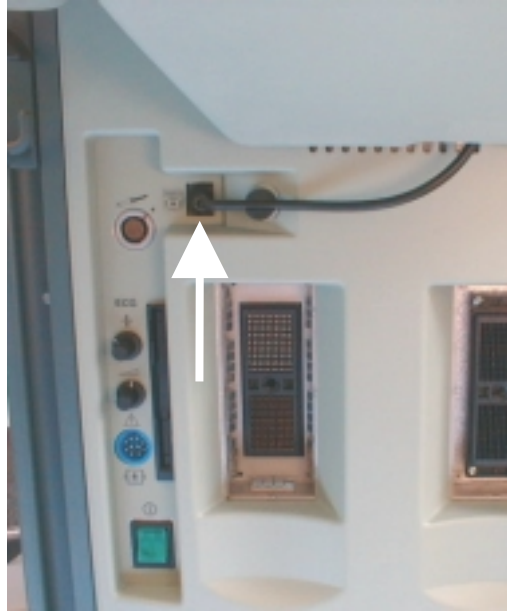

Fig. 6. 1-1. Disconnect the keyboard connector
1. Disconnect the mains cable, remove all transducers from the transducer connectors and disconnect the connector from the keyboard on the front, see Fig. 6. 1-1.
2. Disconnect the video and the power connector from the monitor on the back of the scanner, see Fig. 6. 1-2. If the PC Back-end is installed then also disconnect the power and USB connections to the CD-RW.